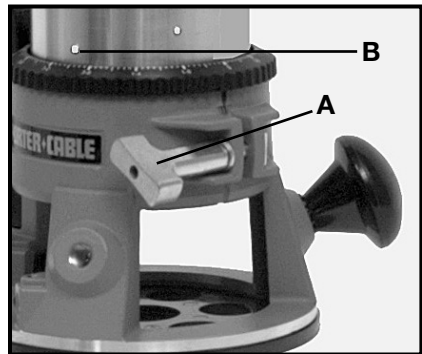

Fig. 1
- Loosen the clamp screw (A) Fig. 1.
- While holding the base, turn the motor unit COUNTER-CLOCK-WISE until the lower pin (B) in the motor housing is disengaged from the groove in the base.